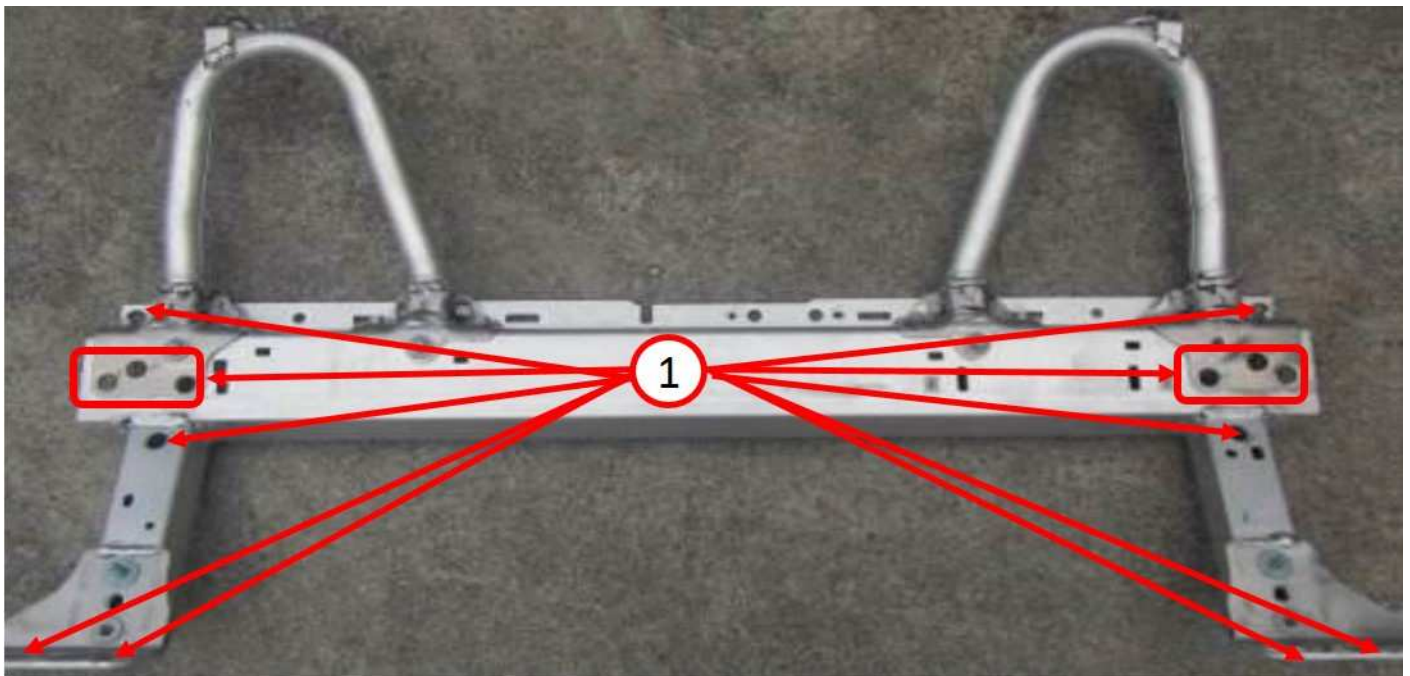

Fig. 2
4. Remove the seat back crossmember assembly (Fig. 2) .